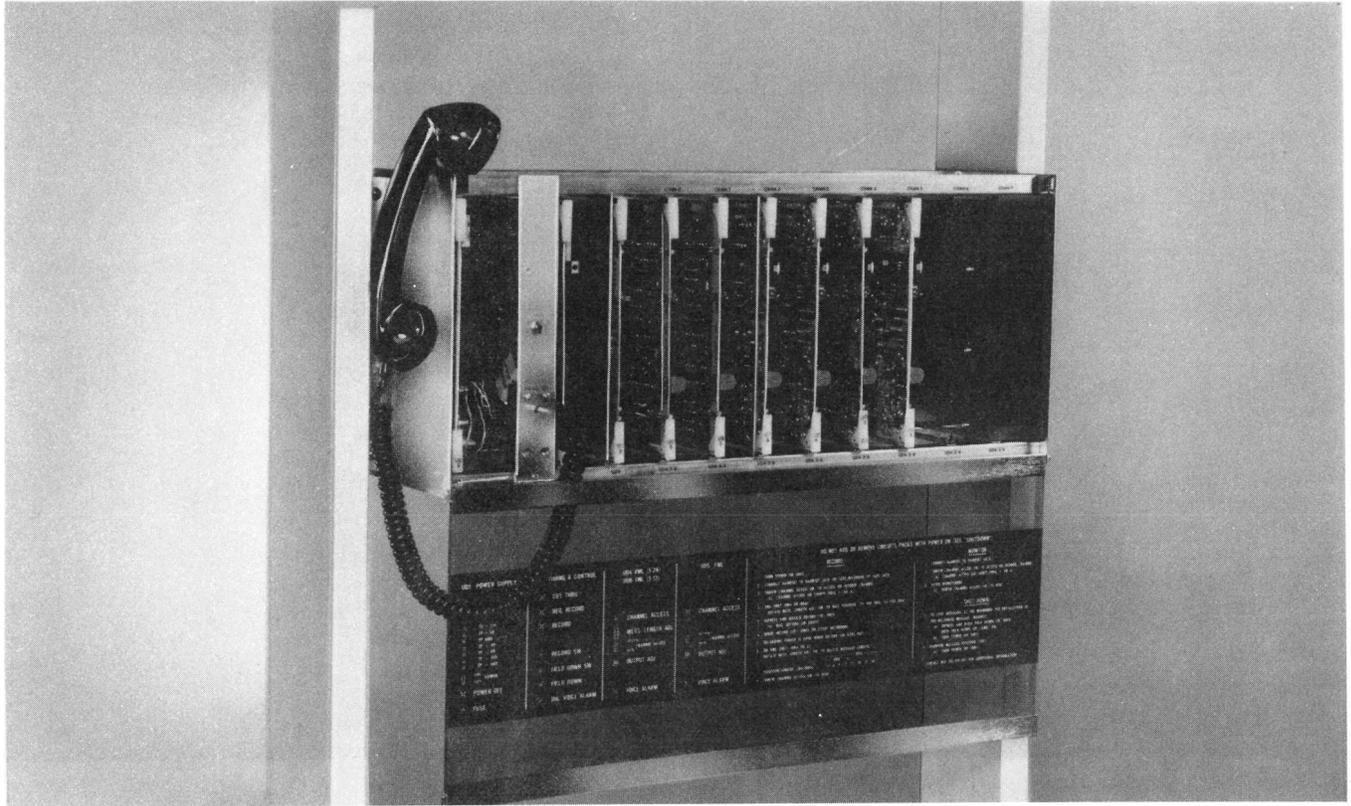

Fig. 1—13A Announcement System (With a Handset Connected)
- (1) Connect the handset to the HANDSET jack (see Fig. 1) on the front of the shelf assembly.
- (2) At desired channel to be monitored, operate CHANNEL ACCESS switch to ACCESS posi-